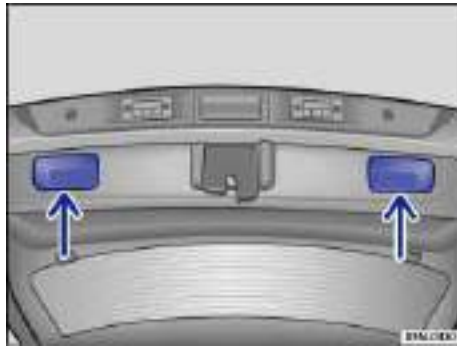

Fig. 33 Opened rear hatch: Recessed grips for closing.
- Grasp one of the recessed grips in the trim of the rear hatch ⇒ fig. 33 (arrows).